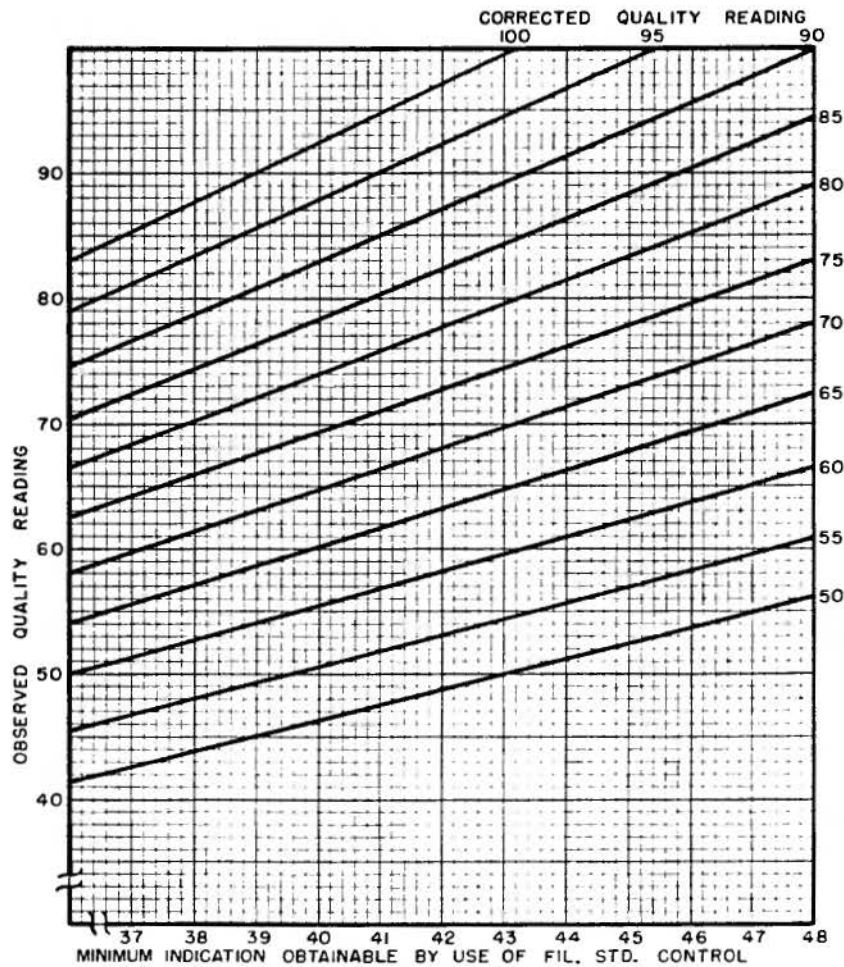

Figure 5A. Curve for Correcting Full-Wave and Half-Wave Rectifier Output Current Tests to Nominal (115 Volts) Line Value
- e. Use the correction curve (Figure 5A) to find the intersection of the minimum value obtained in step c above and the quality reading obtained in step d.